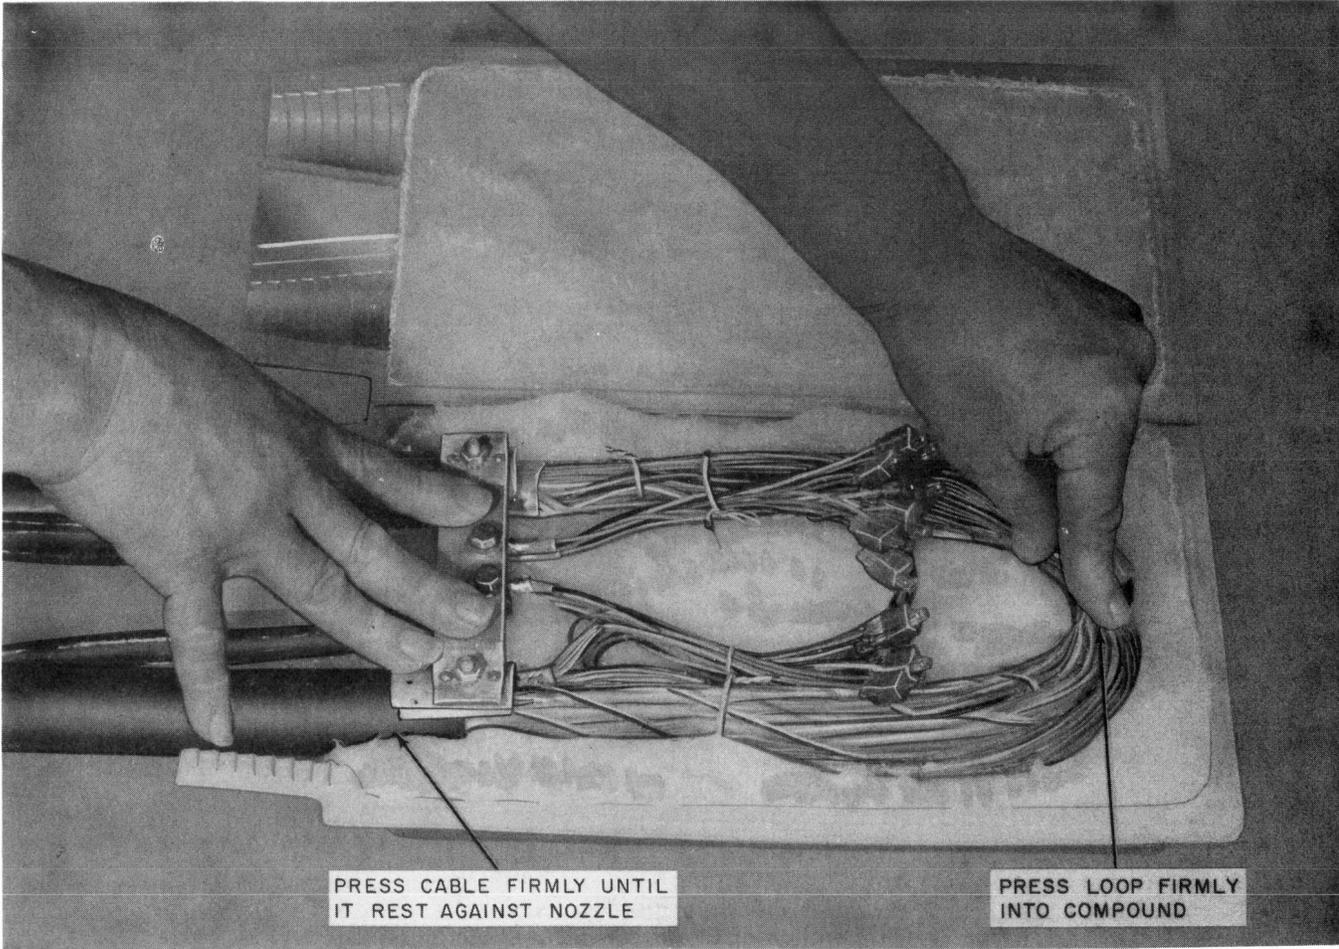

Fig. 26—Placing Cable in Closure
- 4.11** Place the closure shell around the cable opening, then **press** cable firmly until it rests against nozzle (Fig. 26). Press loop with connections firmly into compound.